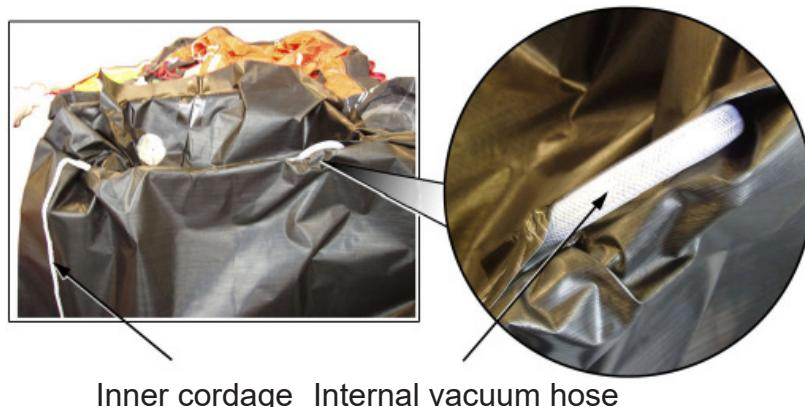

FIGURE A7-10
- 2.14 Open the H-Pack and let it hang outside of the container. Push the H-Pack down into the container. The inner painter line cordage will be visible. Refer to FIGURE A7-10.
- 2.15 Tape the internal vacuum hose to the container rim. Refer to FIGURE A7-10.